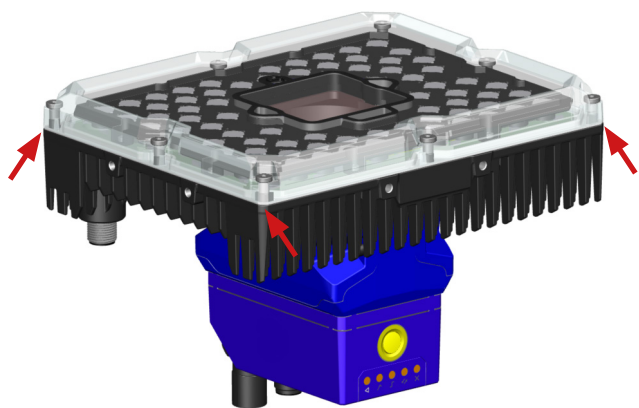

Fig. 1 - Removing the cover
2. Remove the cover manually by gently levering it from its corners. See Fig. 1.